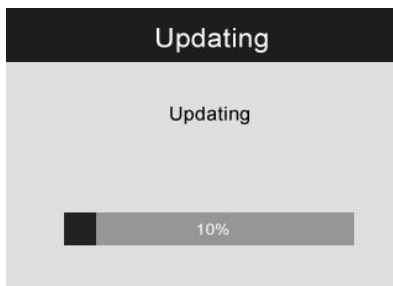

Fig. 31
- 3) Press **Power** button to turn on the tool and then press **UP** button until the update screen pop up, select YES to upgrade the tool (*Fig. 31*)